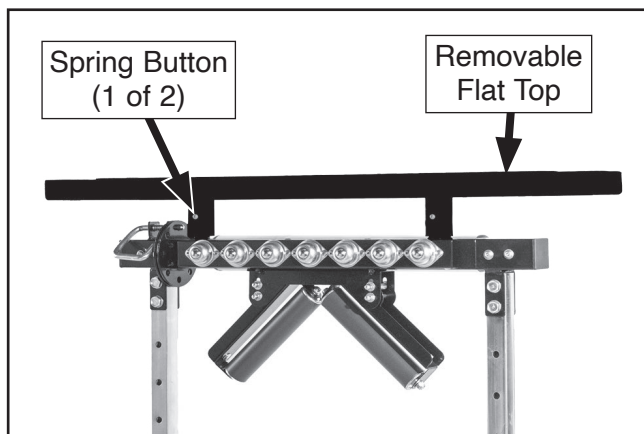

Figure 8. Location of spring button.
6. Slide removable flat top over attachment posts (see **Figure 8**) and press spring buttons to allow table to slide down and lock in place.